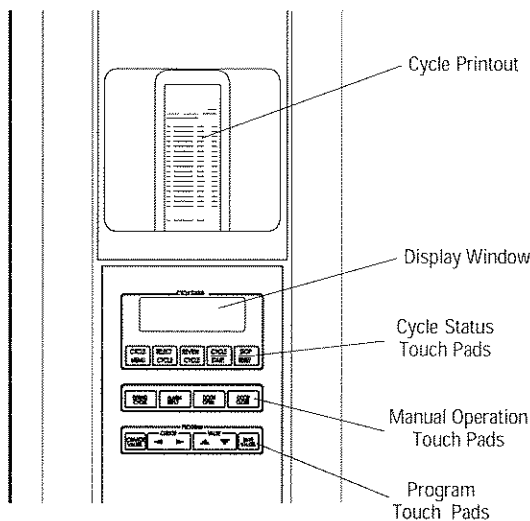

Figure 3-3. Load Side Control Panel Touch Pads
3.3.2 Touch Pads (see Figure 3-3)